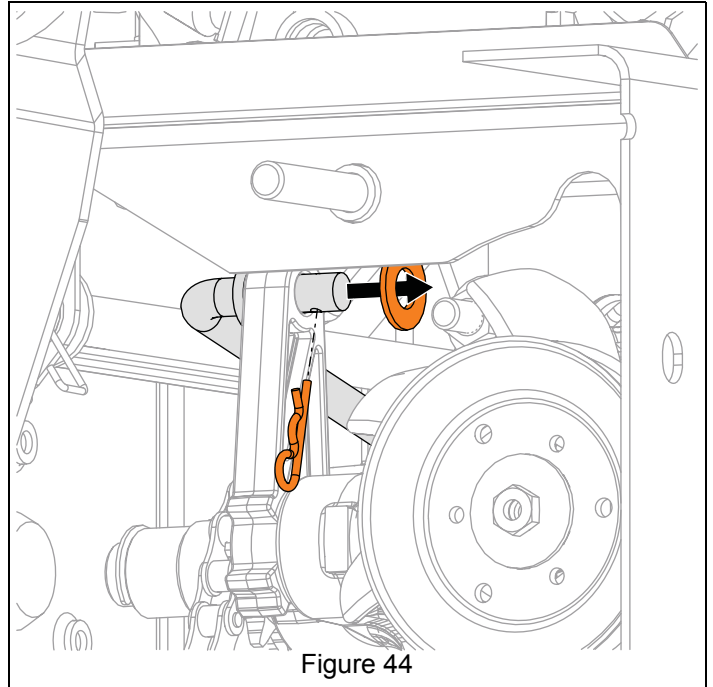

Figure 44
13. Remove hairpin and flat steel washer securing shift rod to transaxle. See Figure 44.